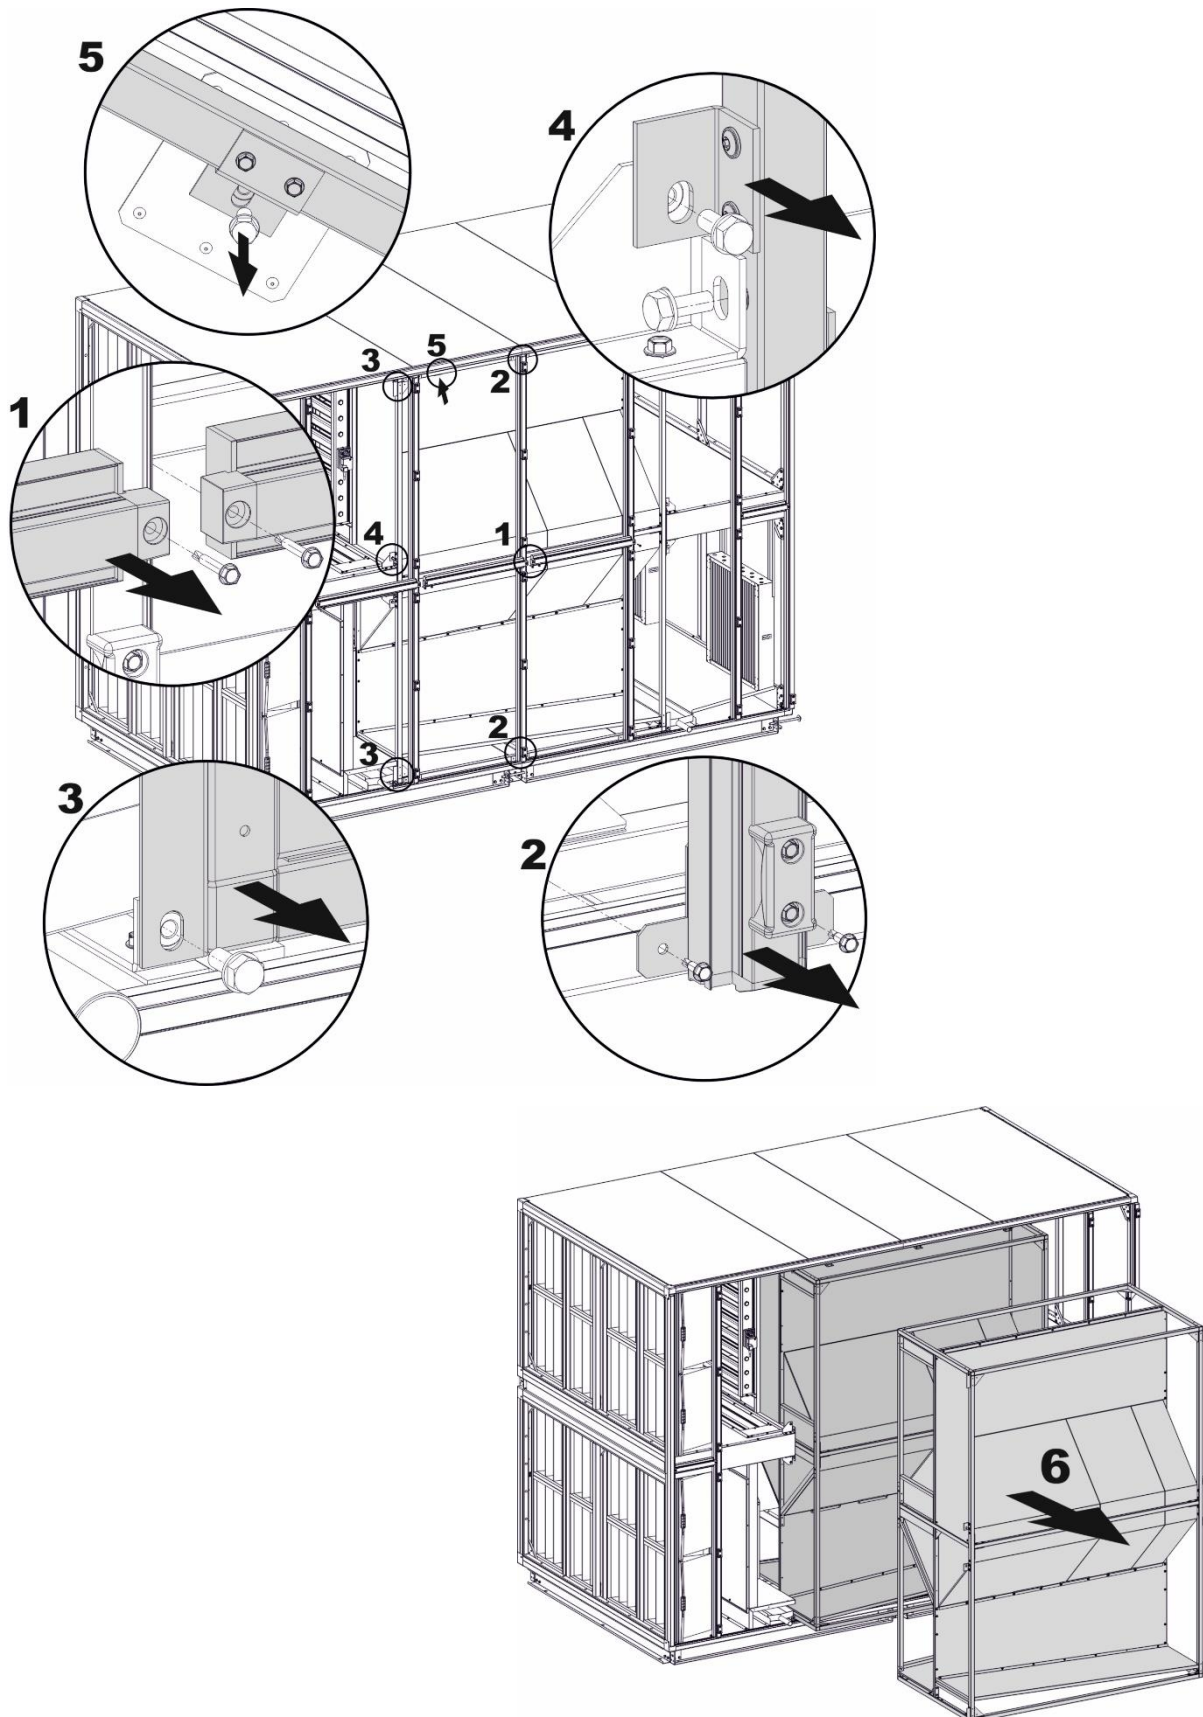

Fig.23. Disassembly of the counter-flow heat exchangers from the unit VVS 75-650
- 1) Unscrew the screws fixing horizontal columns (pos.1. fig.23) and remove them
- 2) Unscrew the screws fixing vertical columns at the top and bottom (pos.2. fig.23) and remove them from the unit
- 3) Unscrew the bolts fixing the exchanger cage. Bolts are placed at the top and bottom (pos.3. fig.23) and the middle (pos. 4. fig.23) part of the AHU. In the units VVS 75-230 is additional fixing to the ceiling (pos.5. fig.23).
- 4) Remove exchanger cage from AHU (pos.6. fig.23).